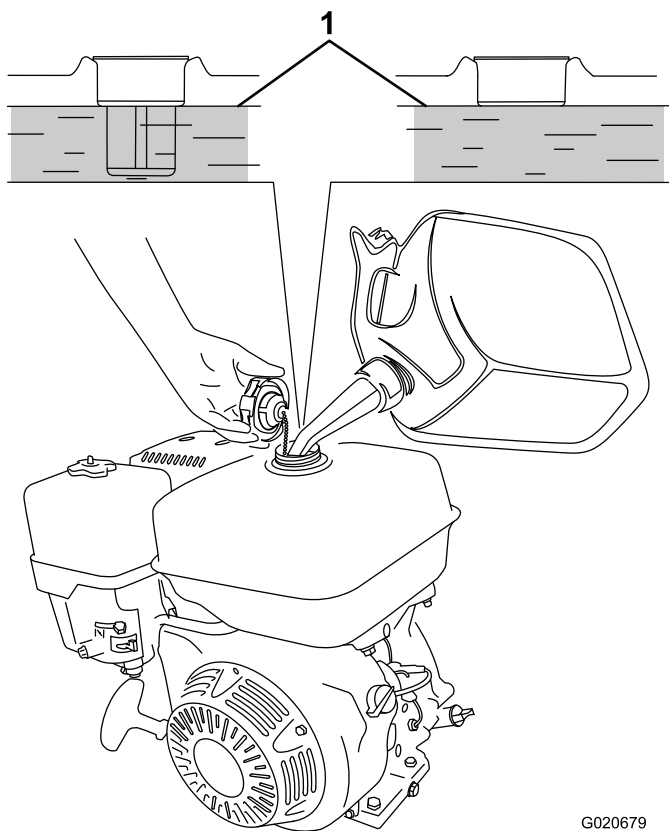

Figure 13
3. Add unleaded gasoline to the fuel tank, until the level is at the bottom of the maximum fuel level as shown in Figure 13.